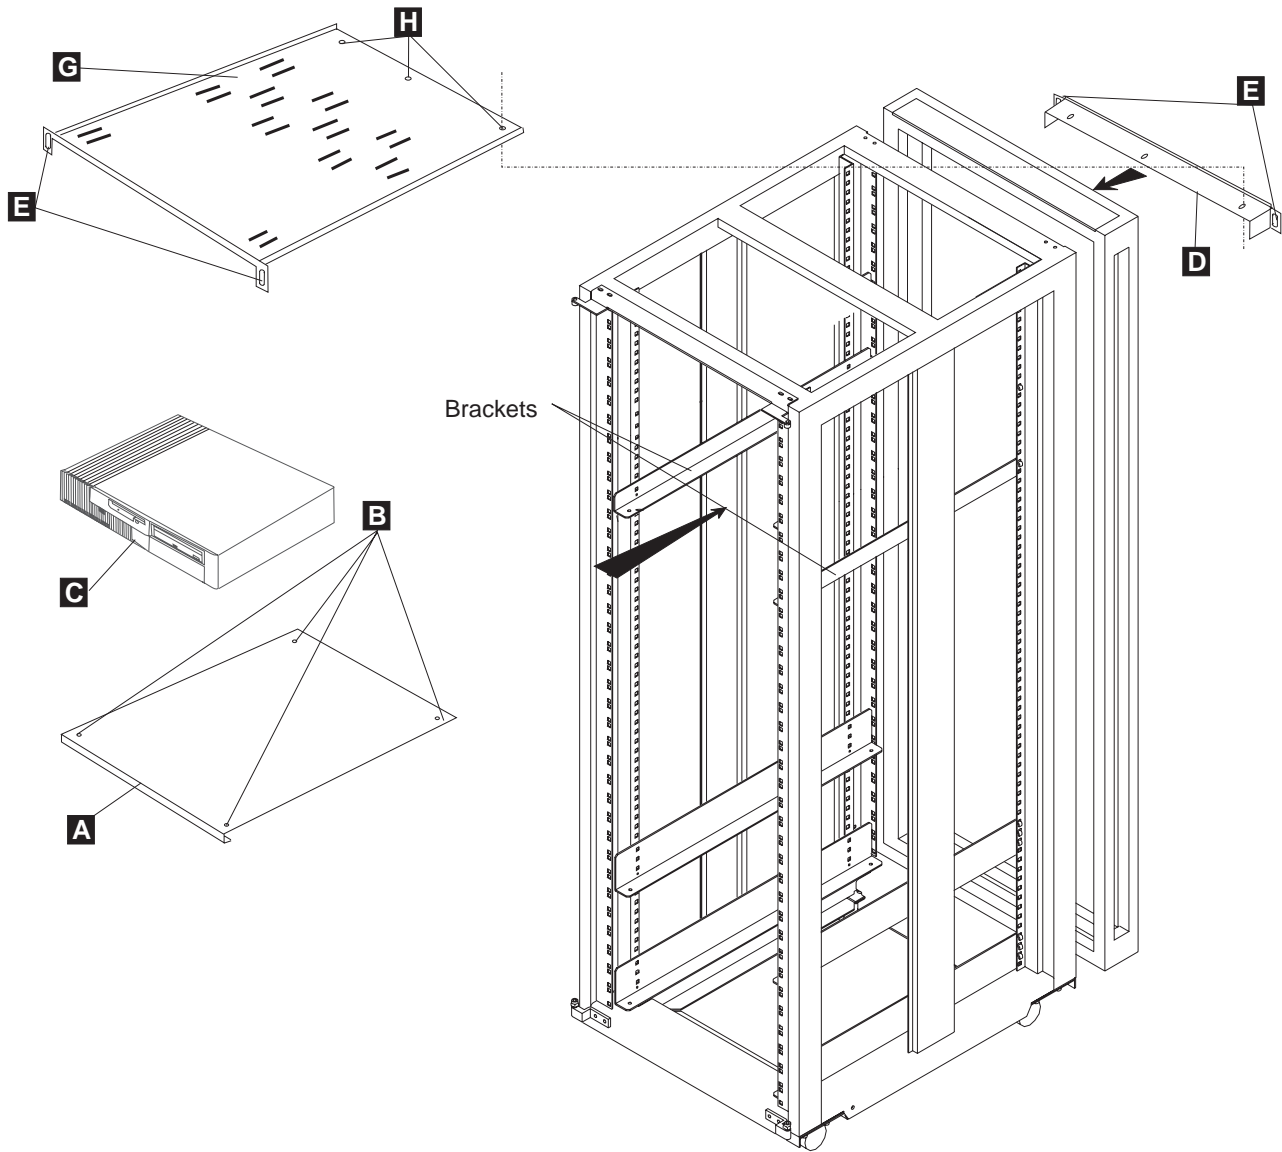
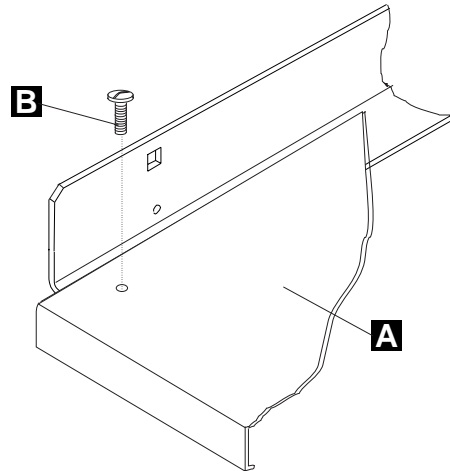

Figure 1-12. Lower and Upper Plate Installation in 37U Rack (Earthquake)
Figure 1-13. Detail of Lower Plate Installation
3. ____ Install the lower plate **A** (PN 42L2850) on the brackets, and secure it using four 8-mm M6 screws **B**. (See Figure 1-12 on page 1-10 and Figure 1-13 on page 1-11.)
7. ____ Secure the upper plate **G** on the front of the rack with screws **E** (PN 43G3084), and on the support **D** with 8-mm M4 screws **H** (see Figure 1-12 on page 1-10).